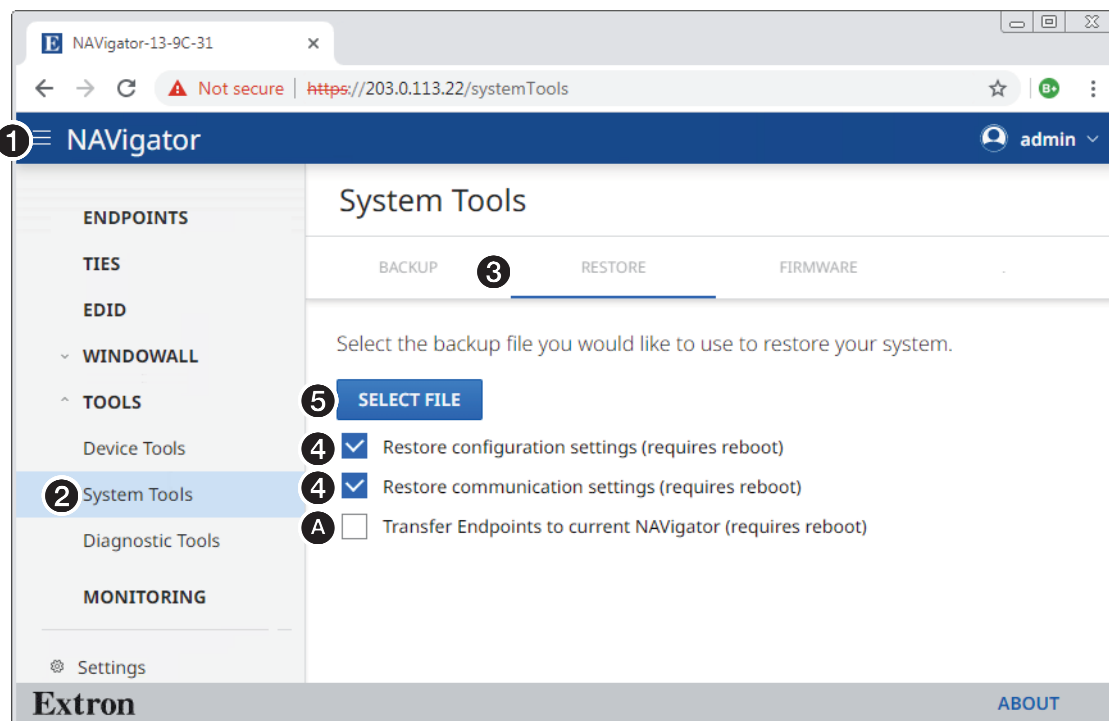

Figure 81. Opening the Restore Configuration Pane
1. If necessary, click the **Menu** icon (see figure 81, ❶).